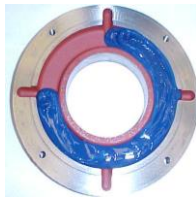

Figure 7.7: Outer bearing cap
- Fill up to ¾ of the inner and outer bearing cap deposits with the recommended grease (Figure 7.7) and lubricate the rolling bearing with enough grease before assembling it;